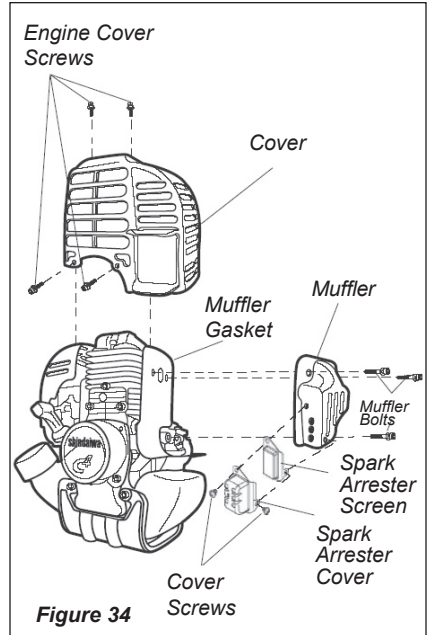

Figure 34
1. With a 3 mm hex wrench remove the 4 engine cover screws and the engine cover. See Figure 34.
2. With a 4 mm hex wrench remove the 3 muffler bolts and the muffler. See Figure 34.
3. With a small flat bladed screwdriver remove the 2 screws holding the spark arrester screen and cover to the muffler. See Figure 34.